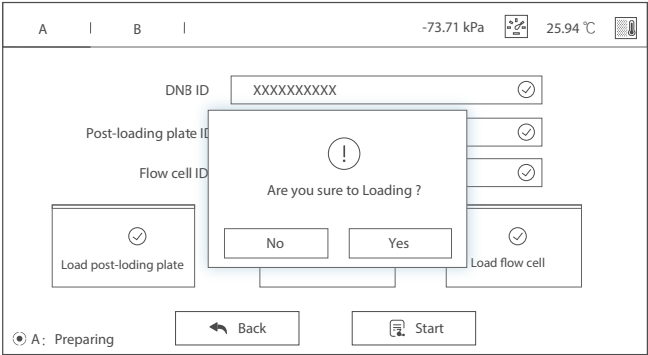
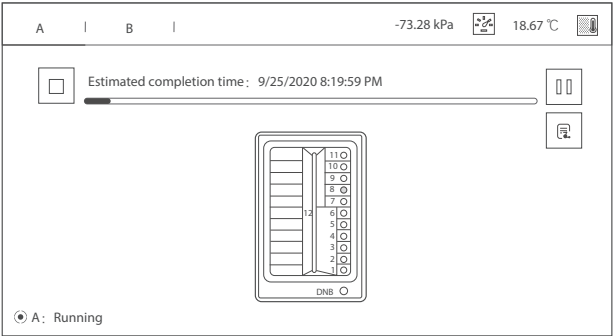

Figure 10 MGIDL-T7RS loading confirmation dialog box
Figure 11 MGIDL-T7RS flow cell loading interface
16. Tap the **Start** button and select **Yes** as shown in the *Figure 10 on Page 55*. Flow cell loading starts as shown in the *Figure 11 on Page 55*.